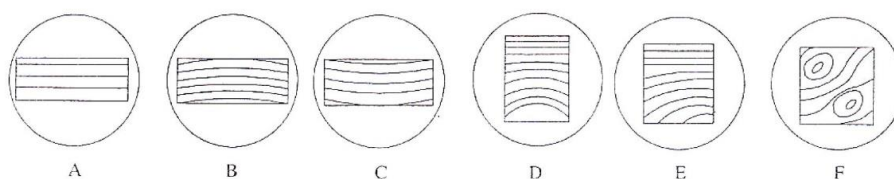

Fig.4.13 – Interference fringes
- ▶ Fringe patterns provide interesting insights into the surface being inspected. They reveal surface conditions like contour lines on a map. Figure 4.13 illustrates typical fringe patterns. Once we recognize surface configurations from their fringe patterns, it is much easier to measure the configurations.